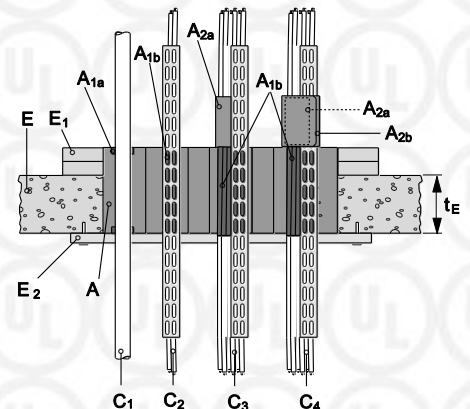

Figure 12: floor penetration
Penetrating services (C₁) with or without support tray within the seal, see Figure 12 of the certificate.
Penetrating cables (C₂, C₃, C₄) with or without support tray within the seal, see Figure 12 of the certificate.
<ul style="list-style-type: none"> – $\varnothing \leq 16$ mm, wall thickness ≥ 1 mm, arranged linear, with or without cables, with or without cable supports, minimum distance to each other = 0 mm – Penetrating services (C₁) with or without support tray within the seal, see Figure 12 of the certificate
<ul style="list-style-type: none"> – Hilti Firestop Blocks CFS-BL (A) of thickness $t_A \geq 200$ mm, centered regarding the thickness of the floor (E); aperture framing or beading (E1) according to Annex C.1.2 of the certificate. – Waveguides 27.8 mm $\leq \varnothing \leq 59.9$ mm (C₁) without support tray within the seal, see Figure 12 of the certificate. – Additional protection: 0.7 mm thick “Hilti Firestop Coating CFS-CT” over a length of 150 mm from the surface of the penetration seal on each side of the floor.
<ul style="list-style-type: none"> – Hilti Firestop Blocks CFS-BL (A) of thickness $t_A \geq 200$ mm, flush with the soffit of the floor (E); aperture framing or beading (E₁) according to Annex C.1.2 of the certificate. – Metal pipes (C₁), see Figure 12 of the certificate. – Metal pipes with mineral wool insulation, minimum density 85 kg/m³, minimum thickness 20 mm (up to Ø 54 mm) or 30 mm (Ø > 54 mm) – Additional insulation, mineral wool mat wrapped around the service, minimum density 85 kg/m³, minimum thickness 20 mm (up to Ø 54 mm) or 40 mm (Ø > 54 mm) over a length of 300 mm (up to Ø 54 mm) or 500 mm (Ø > 54 mm)
<ul style="list-style-type: none"> – Hilti Firestop Blocks CFS-BL (A) of thickness $t_A \geq 200$ mm, flush with the soffit of the floor (E); aperture framing or beading (E₁) according to Annex C.1.2 of the certificate. – Metal pipes (C₁), see Figure 12 of the certificate. – Metal pipes with flexible elastomeric foam insulation, thickness 8.5 to 43 mm. – Additional insulation, Armaflex mat wrapped around the service, thickness 19 mm, over a length of 300 mm or 500 mm
- Hilti Firestop Blocks CFS-BL (A) of thickness $t_A \geq 200$ mm, flush with the soffit of the floor (E); aperture framing or beading (E₁) according to Annex C.1.2 of the certificate.
- Metal pipes (C₁), see Figure 12 of the certificate.